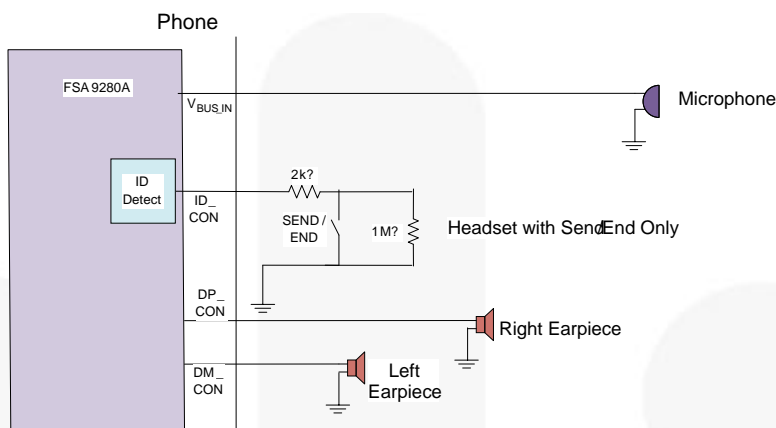
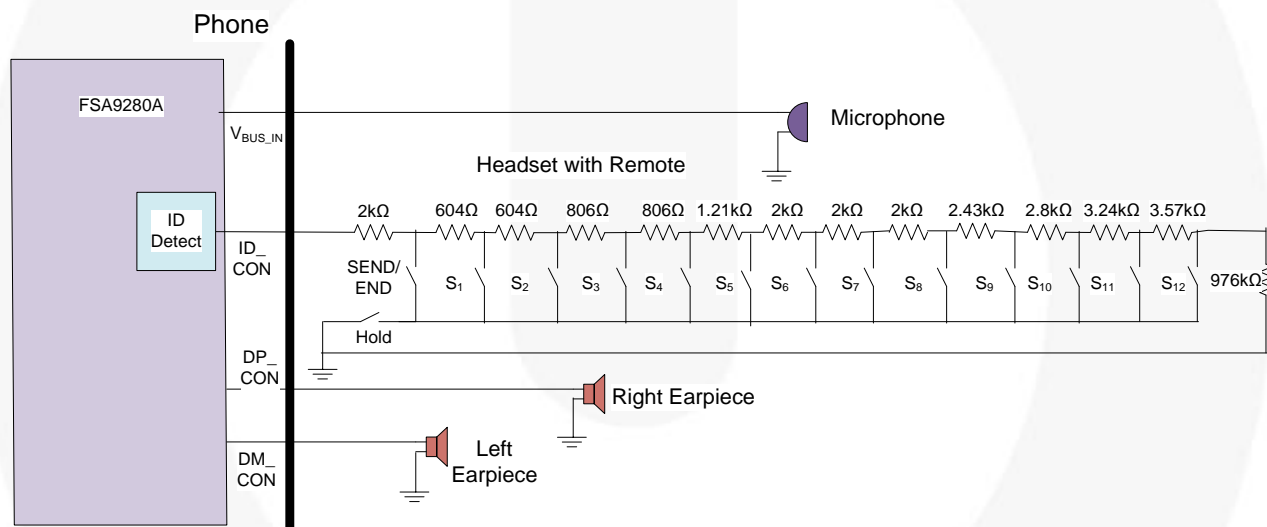

Figure 12. Audio Accessory with Just Send/End Button (1% or 5% Resistors)
Figure 13. Audio Accessory with Full Wired Remote Control (1% Resistors)
- These resistor values are created by multiple standard resistor values in series to form the button presses on the wired remote (see Figure 12).
Audio accessories are detected when the ID_CON pin resistance to GND is approximately 1MΩ. Configurations for this audio accessory shown in Figure 12 and Figure 13.